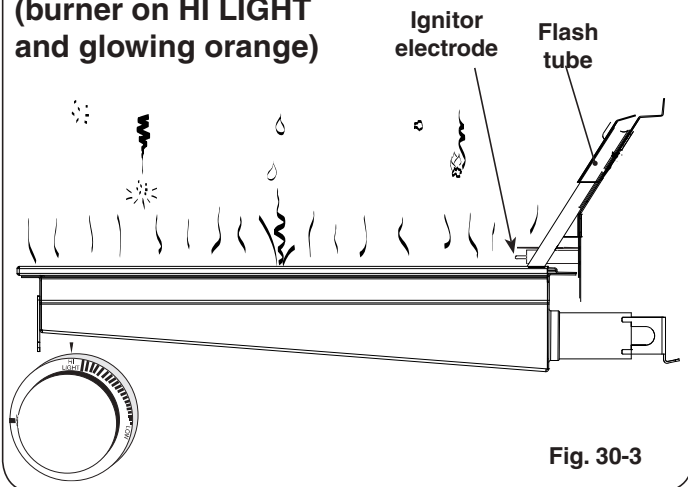

Fig. 30-3
- **DO NOT** place food on the cooking grid until the IR burner glows orange (Fig. 30-3). Drippings are heated and evaporate instead of sticking to and impairing burner function.